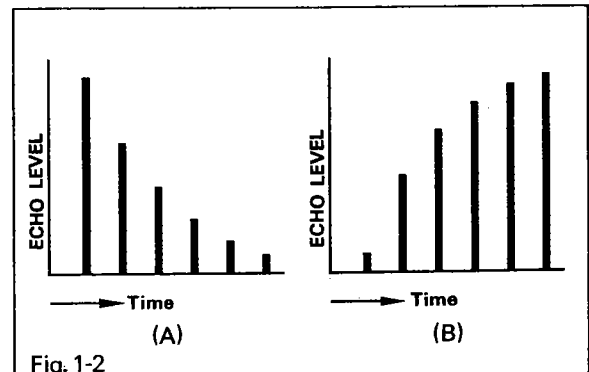

Fig. 1-2
4. For instance, with the Model 9200 whose RECORD HEAD/PLAY HEAD distance (D) is 3cm, when the tape is running at 19cm/sec., the time between when a recorded signal is picked up by the PLAY HEAD and when it is re-recorded by the RECORD HEAD, or echo time, is 0.15 second. Likewise, when the tape is running at 9.5cm/sec., the echo time is 0.3 second.
5. Since the echo circuit is a type of feedback system that has the running tape as part of the circuit, oscillation may occur when a greater than necessary amount of echo level or feedback is applied; the appropriate amount of echo should be added according to the level of signals. (See Figure 1-2 (A)) Thus, during a recording with the echo level set at an unreasonably high position, oscillation may occur when a high-level signal is suddenly applied. (See Figure 1-2 (B)) Therefore, while recording, especially high-level recording, monitoring is necessary to check the most appropriate amount of echo is added to the recording.